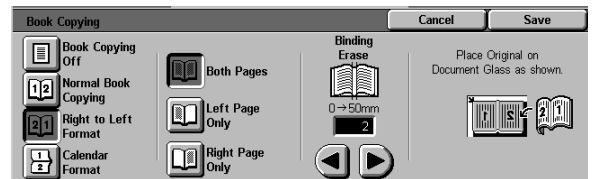

Figure 12: Book Copying screen with Right to Left Format button selected
- 2 Touch the **Right to Left Format** button, as in Figure 12.